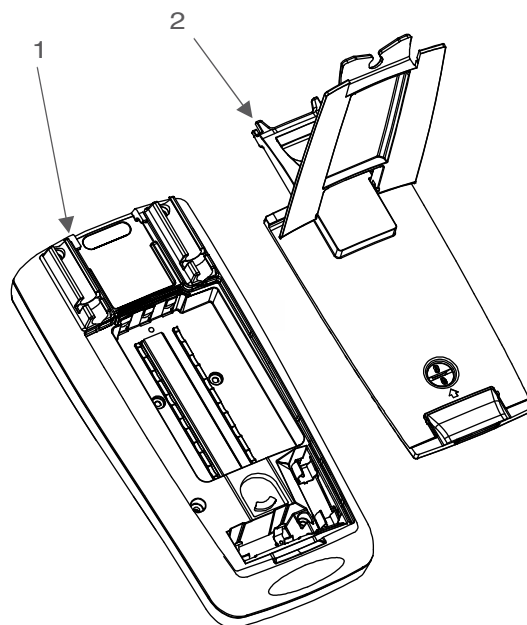

Figure 2. Multimeter Rear Cover
2. Guide the upper portion of the multimeter rear cover (Figure 2., Item 2) into the slots of the multimeter body (Figure 2., Item 1). Lower rear cover into place. Ensure that the multimeter rear cover is flush with the multimeter body.